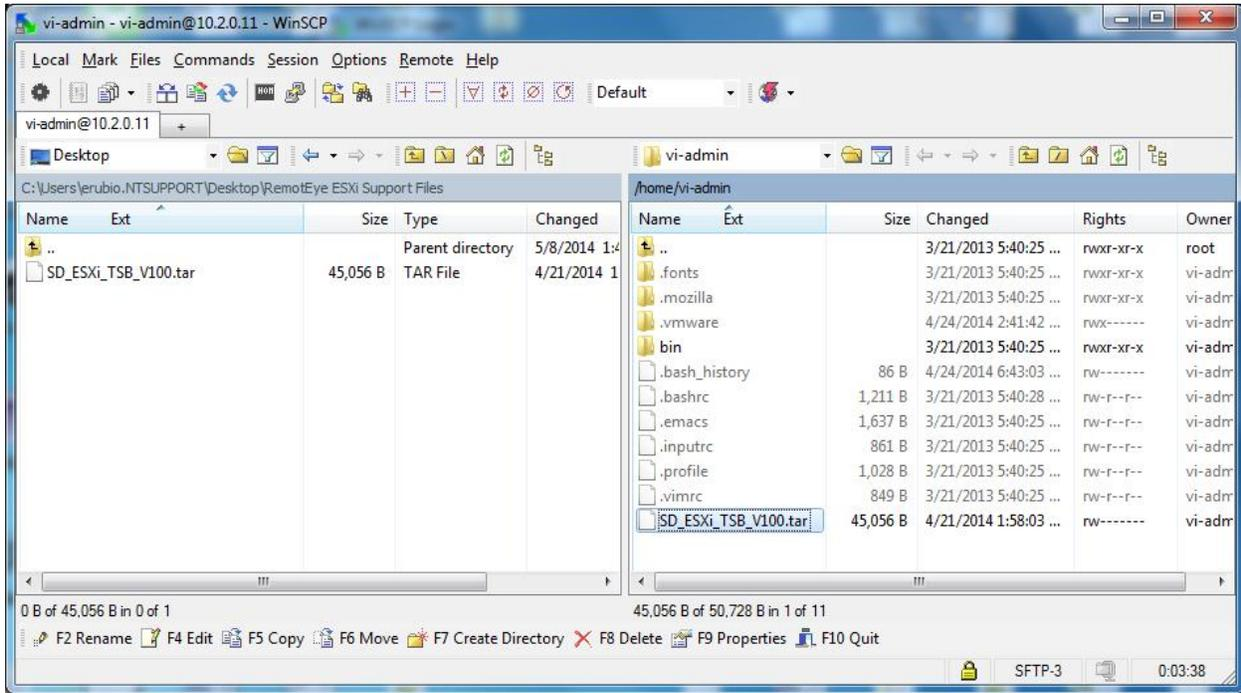

Figure 0-6 WinSCP vi-admin Screen
- 10.1. Locate **SD_ESXi_TSB_V100.tar** file (left side), then select the directory where you want it stored on the vMA (right side) and press the **F5** key. (See Figure 0-6)